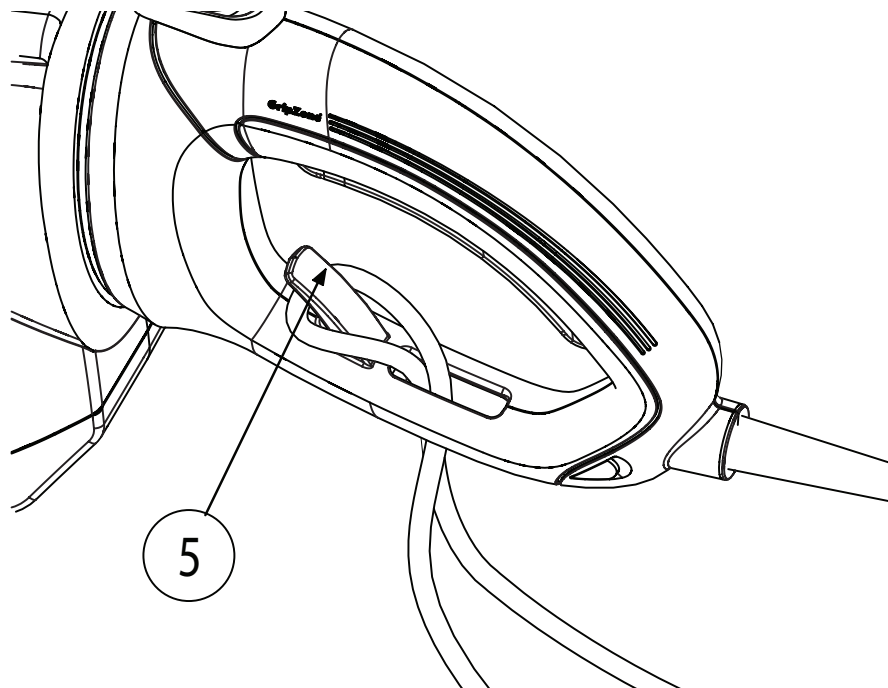

Fig. 2
- Secure the extension cable by hanging it in the pull relief(5)(Fig.2).